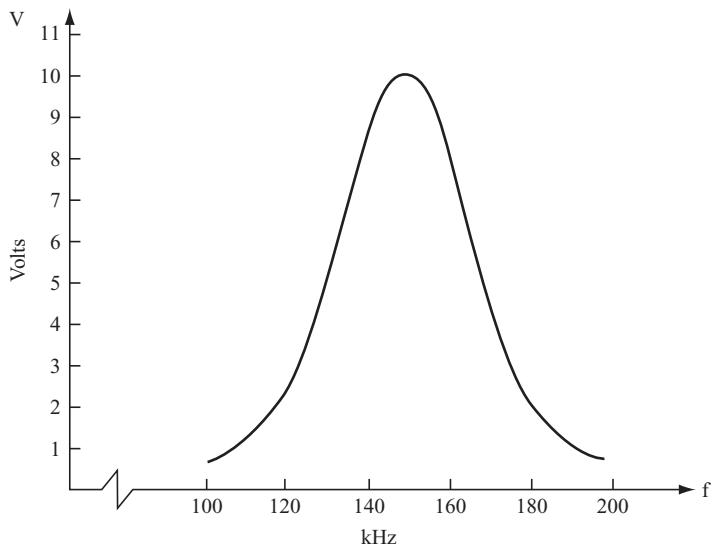

FIGURE 7.47
- 16.** Use the output curve shown in Figure 7.47 to answer the following questions.